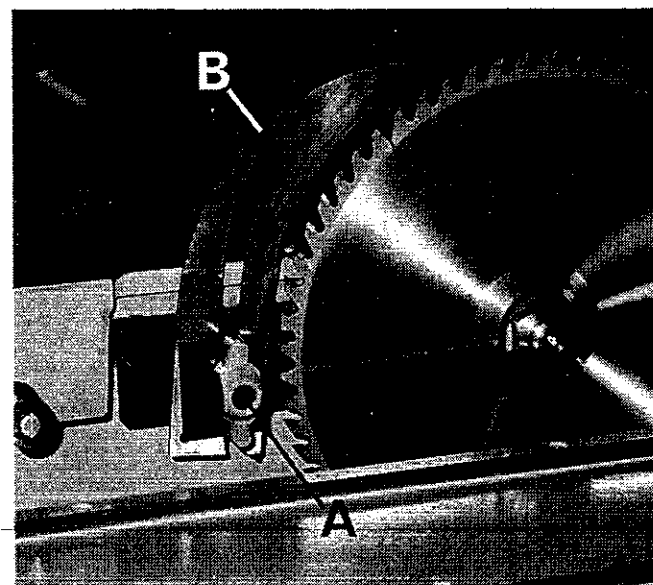

FIG. 13.
2. Move sliding table for access to riving knife adjustment, FIG.13.